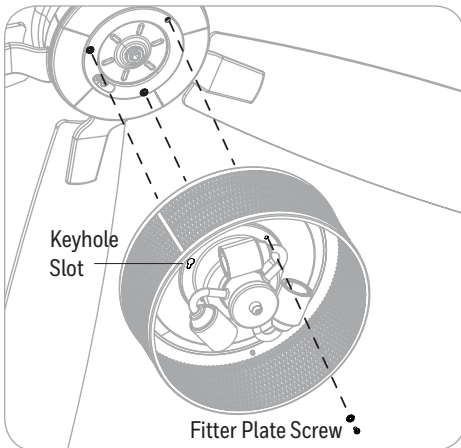

Figure 5.7
7. Lift the light kit and place the two keyhole slots in the light kit over the two loosened fitter plate screws. Turn the light kit clockwise and secure it to the fitter plate with the previously removed fitter plate screw. Tighten all three screws (Figure 5.7).